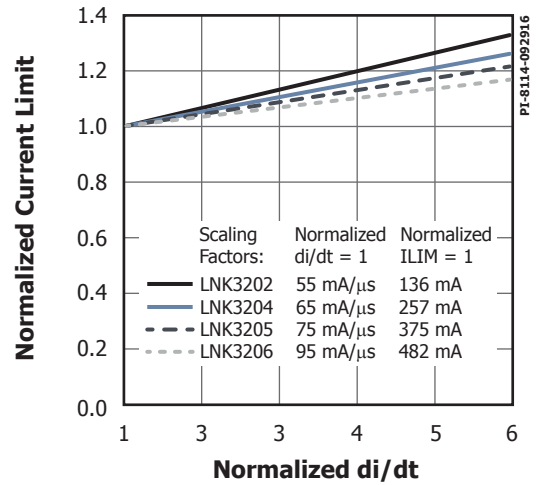

Figure 21. Default Current Limit vs. di/dt .
- D. For current limit at other di/dt values, refer to Figures 21 and 22.